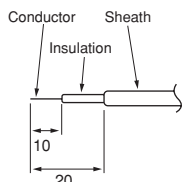
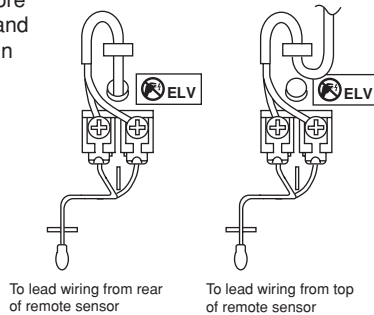

Fig.1
Fig.2
- Connect the 2-core cable to the terminal block in the lower case. Peel the sheath of the 2-core cable as shown in Fig.1, and correctly wire it as shown in Fig.2.